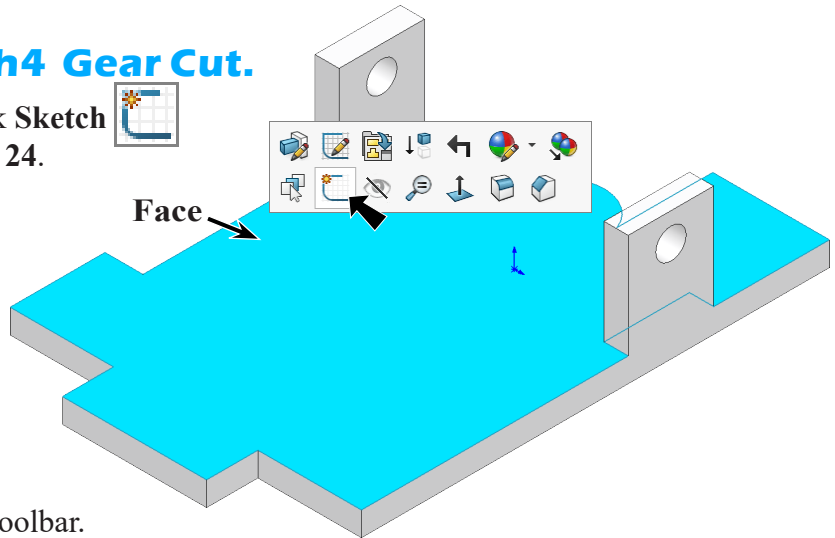

Fig. 24
Step 1. Click the **top face** and click **Sketch** on the context toolbar, **Fig. 24**.